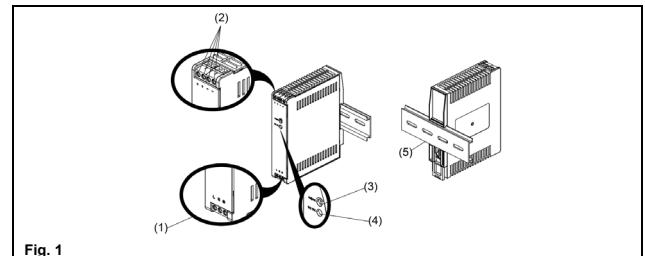
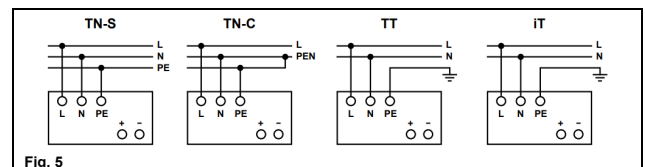

Fig. 1
Fig. 5
2. Device description (Fig. 1)
5.1. Input connection (Fig. 1, Fig. 5)
Use L, N and PE connections of input terminal connector (see Fig. 1 (1)) to establish the 100V AC ... 240 V AC connection.
5.2. Output connection (Fig. 1 (2))
Use the "+" and "-" screw connections to establish the 24 V DC connection. The green LED DC OK displays correct function of the output (Fig. 1 (4)). The device has a short circuit and overload protection and an overvoltage protection limited to < 33.6 V.